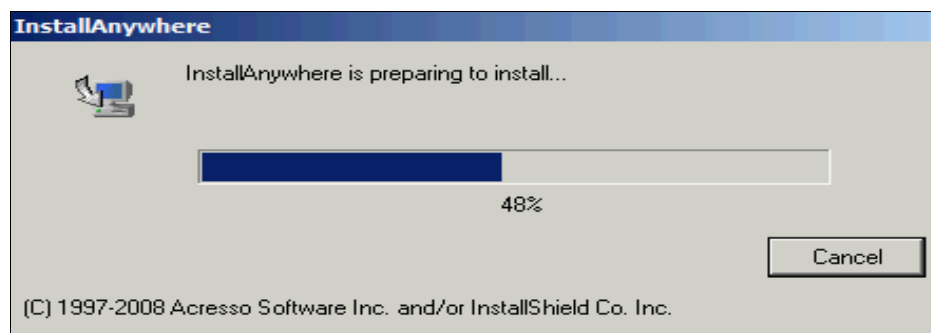

Figure 4-1 IBM DS Storage Manager InstallAnywhere
1. Run the installer file. Our version is SMIA-WS64-10.83.35.18.exe. The files extract themselves as shown in Figure 4-1.